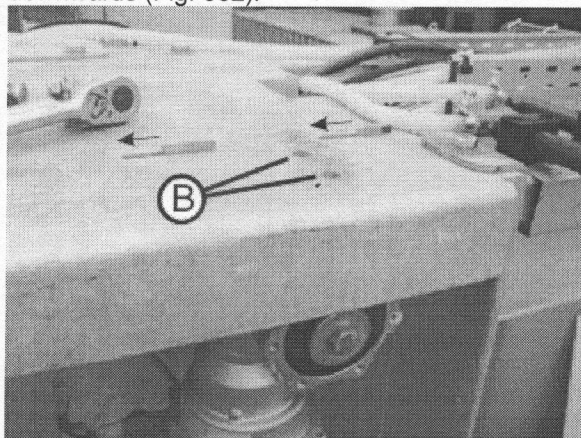

Fig. 052
5. Loosen both retaining screws (B) of the lifting motor, push complete unit to the left and remove downwards (Fig. 052).